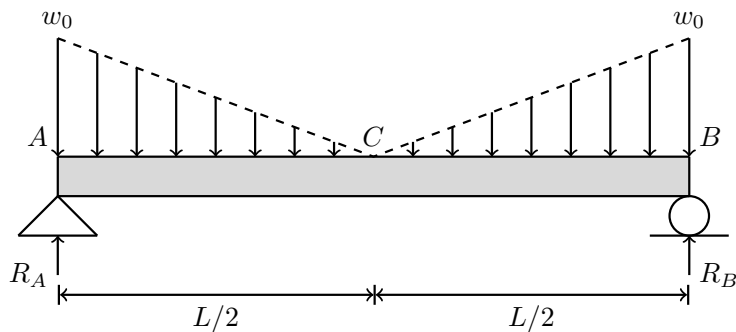

Figure 7
4. Consider a simply supported beam of length  $L$  subjected to applied load as shown in Fig. 7. Calculate the reaction forces, shear force, and bending moment at any point along the beam.